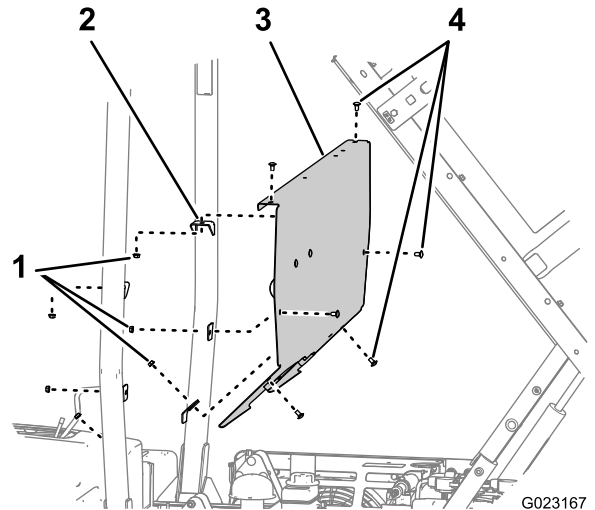

Figure 12
1. Remove the 6 carriage bolts and 6 nuts that secure the ROPS panel to the mounting brackets on the ROPS bar (Figure 12).
2. Remove the ROPS panel from the machine (Figure 12)